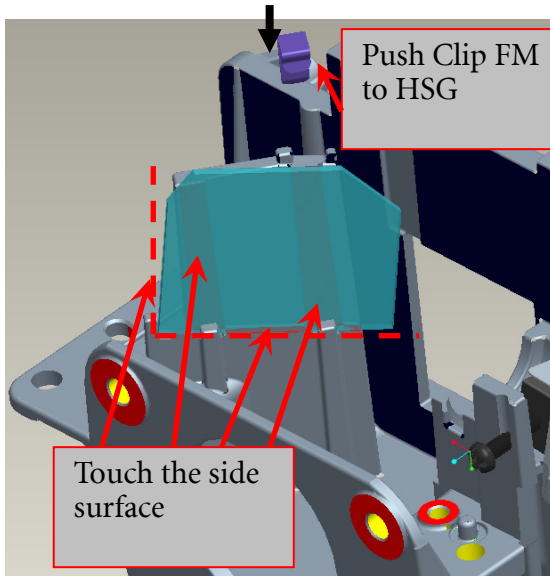
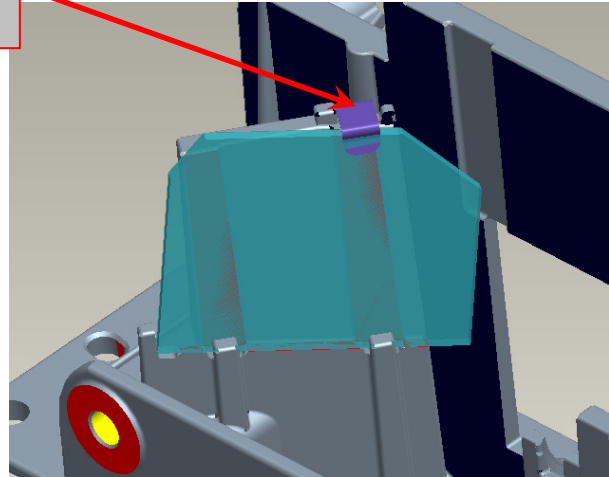

Fig. 2-1
Fig. 2-2
2.1 Place FM on “HSG DMD” surface(Fig. 2-1) and use “Clip FM” to fix FM(Fig. 2-2).